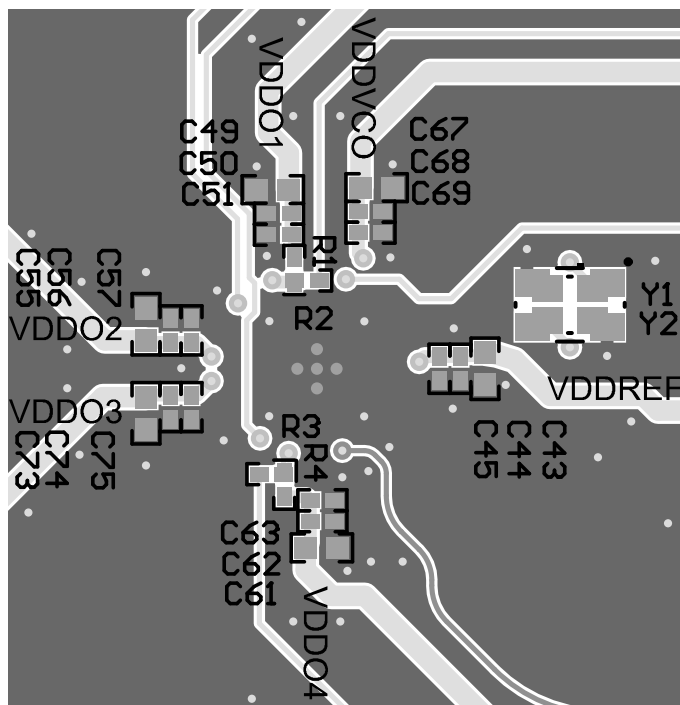

Figure 8-6. Layout Example, Bottom Layer
- Isolate the crystal area, connect the GND pads of the crystal package and flood the adjacent area. Figure 8-6 shows a foot print which supports multiple crystal sizes.
- Place decoupling capacitors with small capacitance values very close to the supply pins. Try to place the capacitors very close on the same layer or directly on the backside layer. Larger values can be placed more far away. Figure 8-6 shows three decoupling capacitors close to the device. Ferrite beads are recommended to isolate the different frequency domains and the VDD_VCO domain.